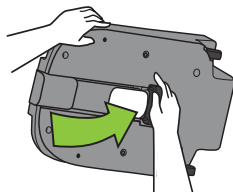

Figure 55
- Turn Base over and rotate Load Leg into Load Leg Storage on bottom of Base. Press down on Load Leg to lock in place as shown in **Figure 55**.